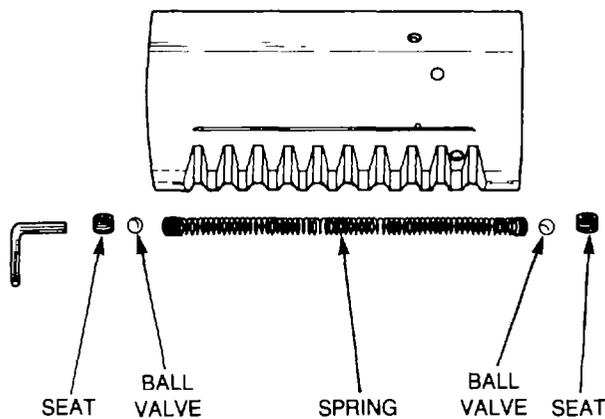

Figure 291 — Relief Valve — Installation
- s. Install one relief valve ball seat in the end of the piston using a 3/16 in. Allen key, then install a ball valve, the spring, the remaining ball valve and the ball valve seat (see Fig. 291).